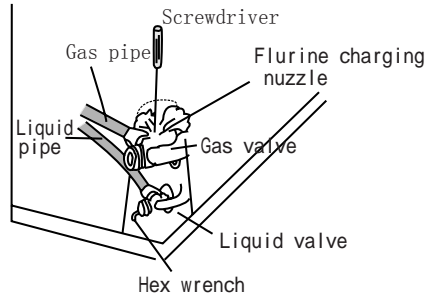

Fig.8
7. Open the liquid valve caps and gas valve entirely (shown in Fig.8)